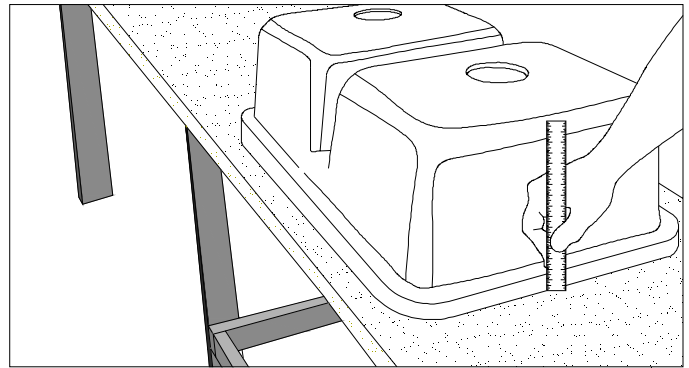

Figure 2A
- $\frac{3}{4}$ " or less for other methods (FIG. 2A)